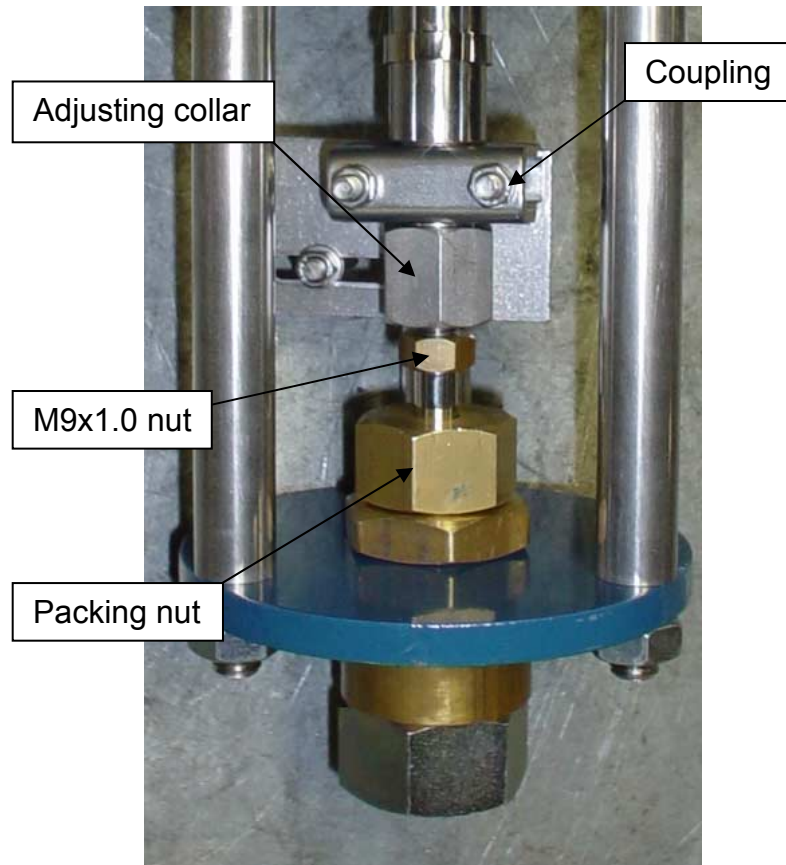

Fig. 5
- The packing nut is tightened completely and then loosened  $\frac{1}{4}$  turn (fig. 5).